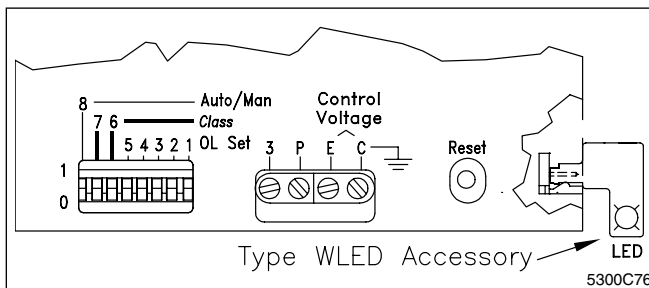

Fig. 3 DIP Switch, Terminals and Reset
Use the eight-position (8 pole) DIP switch to select the method of reset (MANUAL or AUTOMATIC), the overload protection Class (10, 20, 30, or NONE), and the trip current rating appropriate for the motor full load current in amperes (FLA). When a DIP switch handle is moved towards the position number (marked 8 through 1, left to right), that pole is closed (represented by "1"). When a switch handle is moved away from the position number, the pole is open (represented by "0"). See Figure 3. **Be sure that each DIP switch handle is moved to the full ON (1) or full OFF (0) position.**